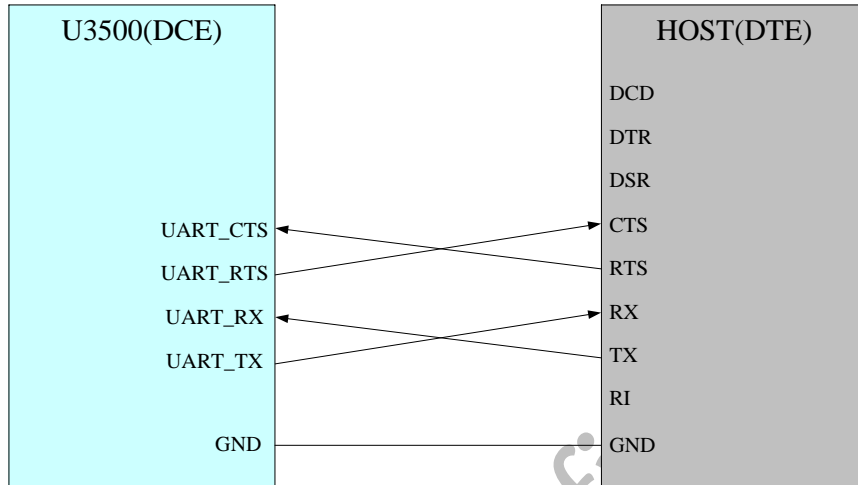

Figure16: U3500 UART is used for data transfer
- 1) DATA_RTS/DATA_CTS are the hardware flow control signal, the connection should be crossed as figure 16;